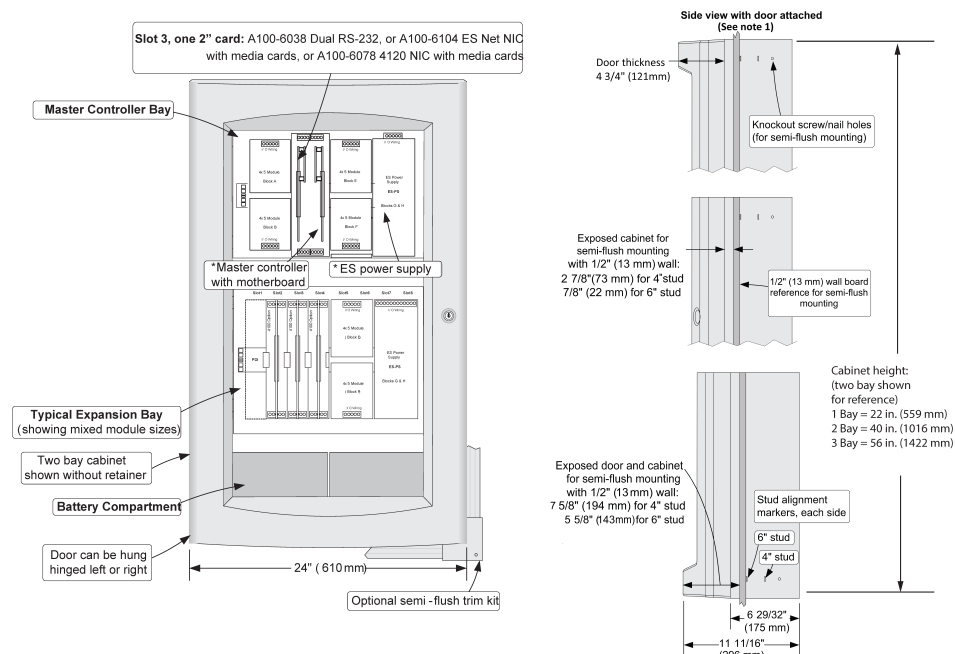

Figure 14: Mounting and CPU Bay Module Reference
2. Asterisks (*) in Figure 14 indicate supplied modules.